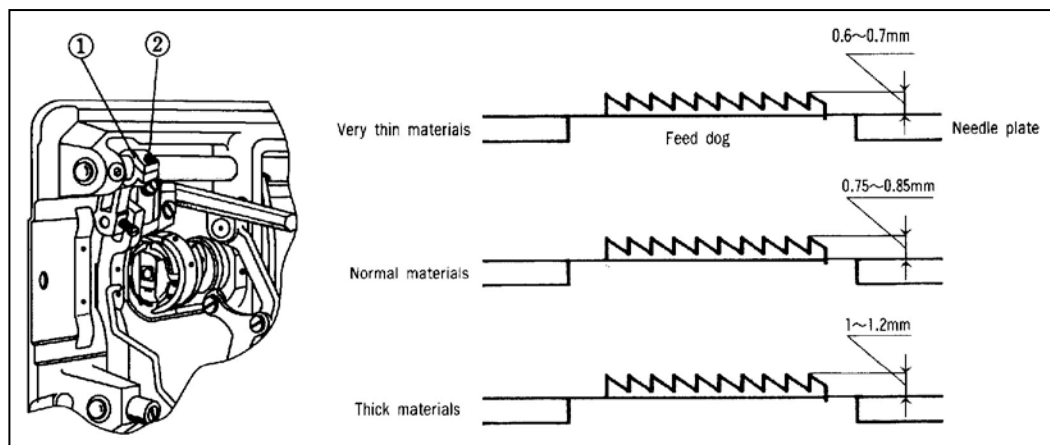

Fig.22
The height of the feed dog is adjusted by moving the lifter crank (1) after the lifter crank fixing screw (2) is loosened. The standard height from the top face of the needle plate to the top of the feed dog when the stitch length dial is at its maximum and the feed dog is at its highest point is shown in Fig.22.